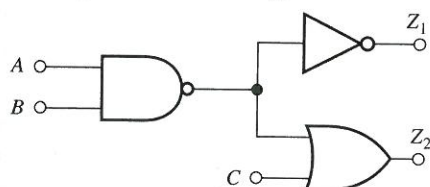
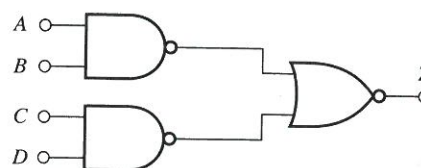

Figure P6.28
Figure P6.29
- 6.28. Make a truth table and write an expression for the two logic functions in Fig. P6.28.
- 6.29. Make a truth table and write an expression for the logic function in Fig. P6.29.
- 6.30. (a) What is the fan out of the NAND gate in Fig. P6.28? (b) Of each NAND gate in Fig. P6.29?